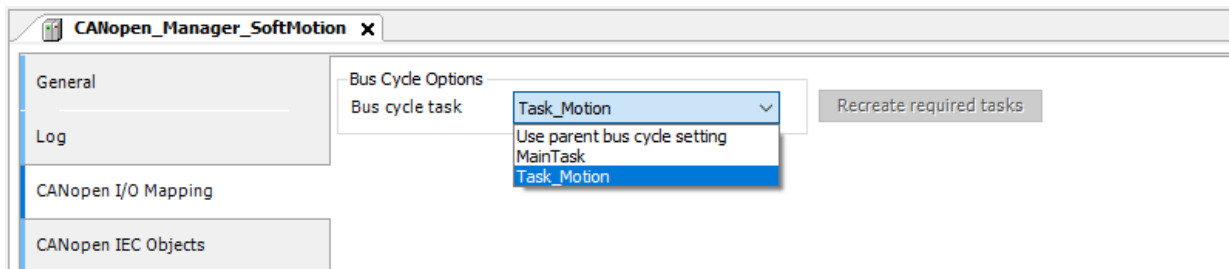

Figure 6.9: Default CANopen Manager SoftMotion settings.
- Still in the settings of the **CANopen Manager SoftMotion** object, on the **CANopen I/O Mapping** tab, select the task responsible for the motion (**task_Motion**), as shown in Figure 6.9.